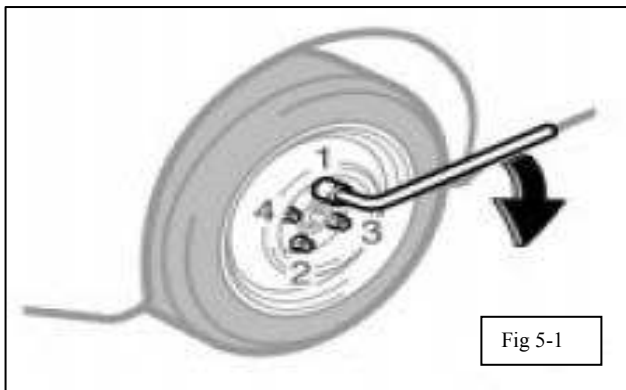

Fig 5-1
5. Install rear wheels. (as shown in Fig 5-1.)